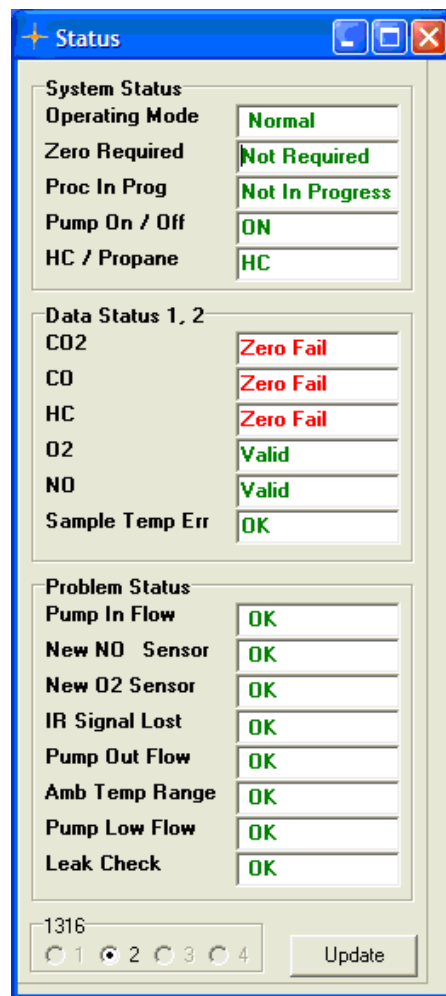

Figure 4.8. The Status window showing Data Invalid and IR signal lost.
6. If the peak-to-peak value for any IR channel is less than a flash-memory-resident minimum value, the following warnings occur see figure 4.8: